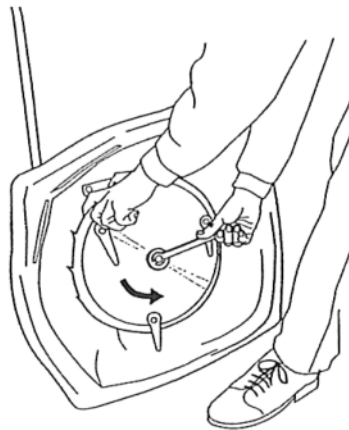

Figure 15
3. Remove the impeller retaining bolt, flat washer and cutter disc. (Fig. 15)